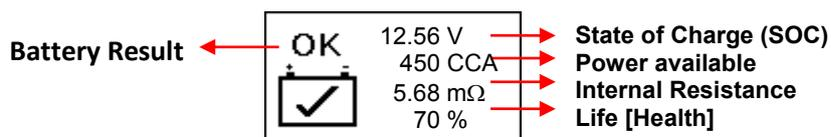

Fig.19
17. For less than 7 seconds, the results of the testing will be displayed on the LCD screen (Fig. 19).